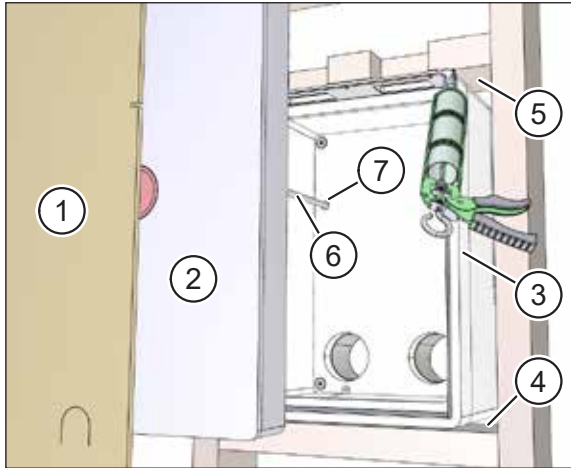

Fig. 50: Inserting and fixing the wall box
- ▶ Remove the plaster cover (item 1 in Fig. 50) and the protective cover (item 2 in Fig. 50) from the wall box (item 3 in Fig. 50).
- ▶ Apply assembly adhesive to the top of the lower batten (item 4 in Fig. 50) and the underside of the upper batten (item 5 in Fig. 50).
- ▶ Thread the mains cable and the control cable, if required (item 6 in Fig. 50), through the cable inlet in the wall box (item 7 in Fig. 50).